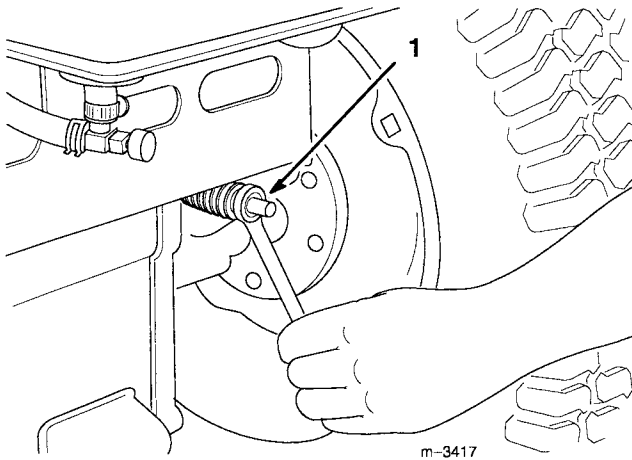

Figure 35
The brake adjustment is at the rear of the tractor (Fig. 35). If the parking brake does not hold securely, an adjustment is required.
4. Turn the brake adjustment nut (Fig. 35) until there is 2" (51 mm) of free travel.